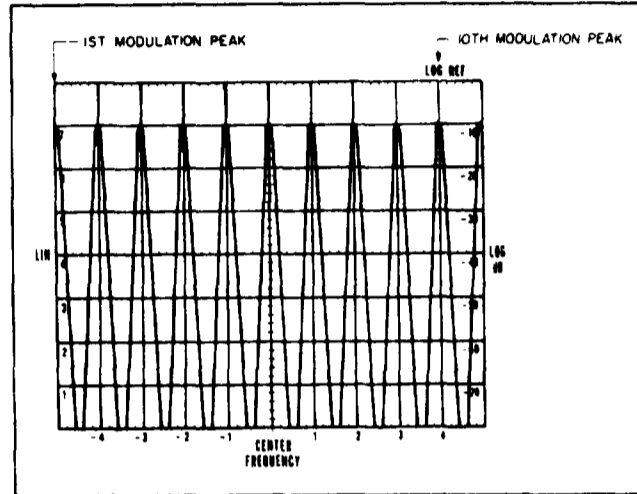

Figure 4-7. Scan Time Modulation Peaks
5. Adjust the audio oscillator modulation frequency to align the tenth modulation peak with the +4 graticule line (see Figure 4-7). Total scan time is read on the HP 5245L and should be 2.0 \pm 0.2 ms.